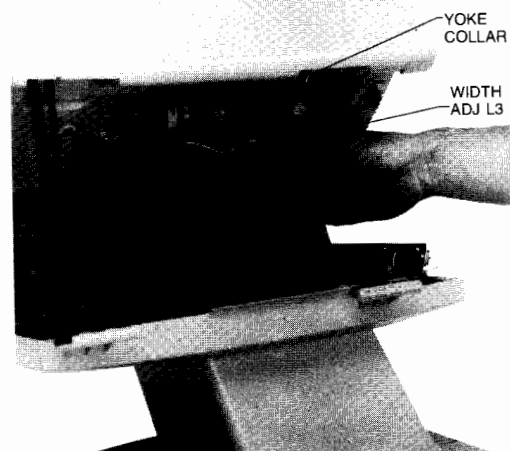

Figure 5-5. Location of Raster Width Adjustment and Yoke Collar
6. To adjust a tilted display, the yoke assembly must be rotated on the CRT neck by its plastic donut-shaped body, but first the yoke collar screw (figure 5-5) must be loosened. After the adjustment has been made, retighten the yoke collar screw.